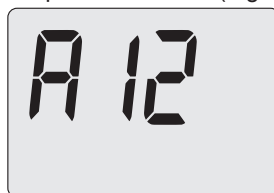

Fig. 8.45
- Press button 10 and hold until the LCD display shows the code **A12**, indicating entry into "parameter A12" (Fig. 8.45).
- Press 10 (Fig. 8.31) to confirm the value entered and return to the list of parameters (Fig. 8.45).